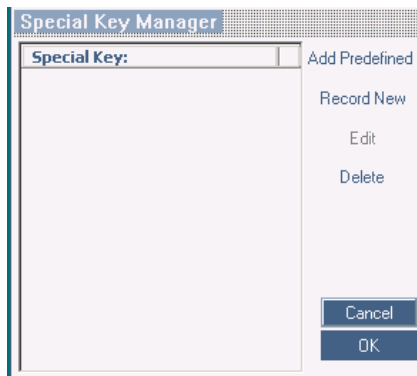

Figure 23 The Special Key Manager box
1. Click **Add/Remove**. The Special Key Manager box appears see Figure 23.